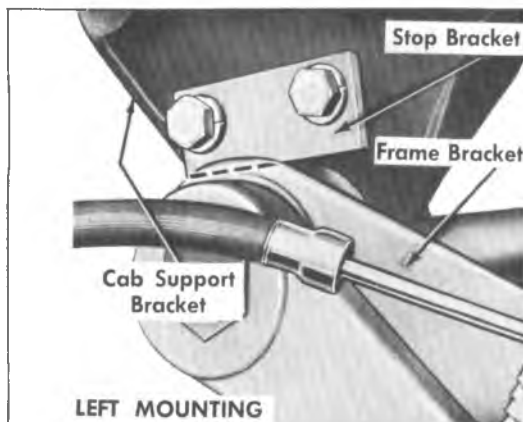

Figure 34—Cab Torsion Bar Stop Brackets Installed
4. Install cab stop brackets (if previously removed) to torsion bar cab and frame brackets as shown in figure 34. Torque attaching bolts to 35 to 50 foot-pounds. Make sure stop brackets are installed as shown.
6. Tighten bolt which clamps cab right mounting bracket to end of torsion bar (fig. 34) to 65-75 foot-pounds.